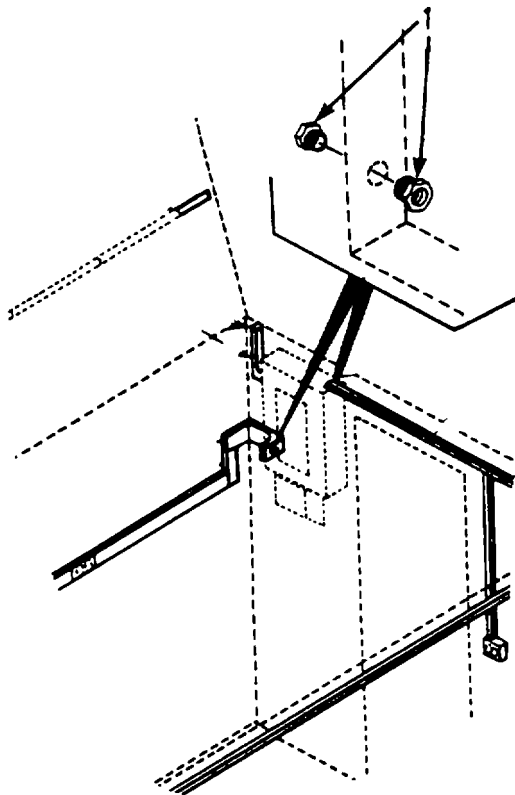
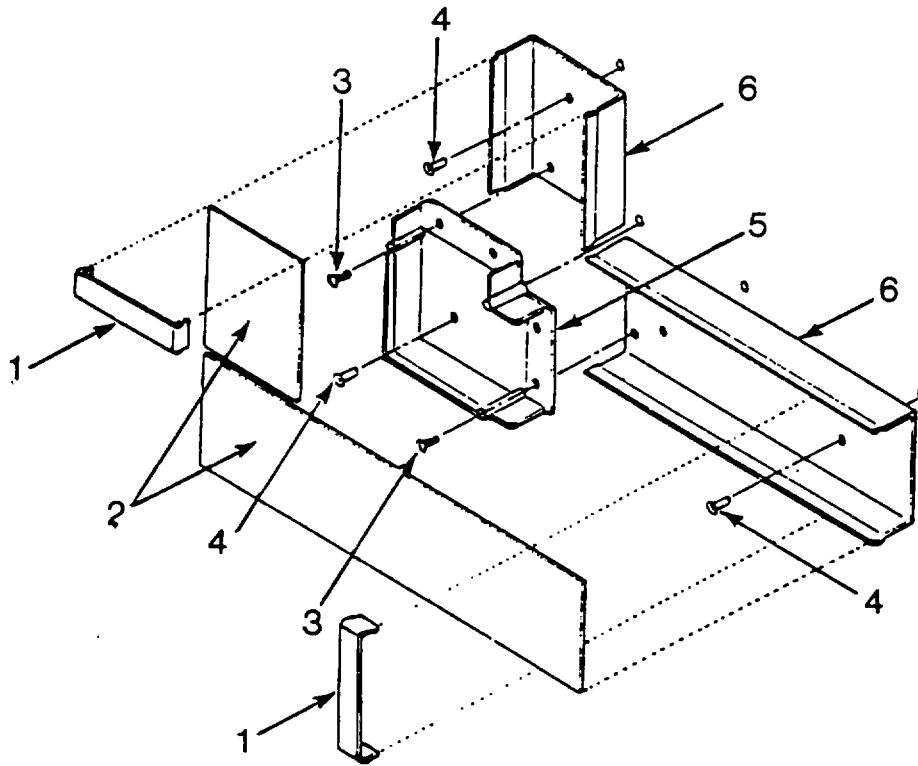
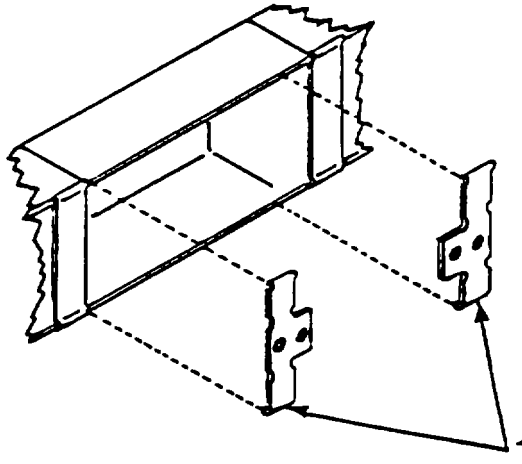

Figure 5-5. Conduit Bushings
Figure 5-6. Rigid Conduit Assembly
Figure 5-7. Receptacle Clips
a. Inspect. (See Figure 5-5.)
- (1) Inspect conduit channels, channel covers and clips on shelter walls and ceiling for bends, breaks and sharp edges.
- (2) Inspect conduit channels, channel covers and clips for corrosion and security of installation.
(a) Remove conduit bushings (1, Figure 5-5.)
- (b) Remove clips (1, Figure 5-6) and cover (2).
- (d) Remove screws (3) and rivets (4).
- (e) Remove corner bracket (5) and channel (6).
(f) Remove receptacle clips (1, Figure 5-7).
- (g) Install and secure conduit channel (6, Figure 5-6) with rivets (4).
- (h) Install and secure corner bracket (5) with screws (3) and rivets (4).
- (i) Install receptacle clips (1, Figure 5-7), cover (2, Figure 5-6), and conduit bushings (1, Figure 5-5).